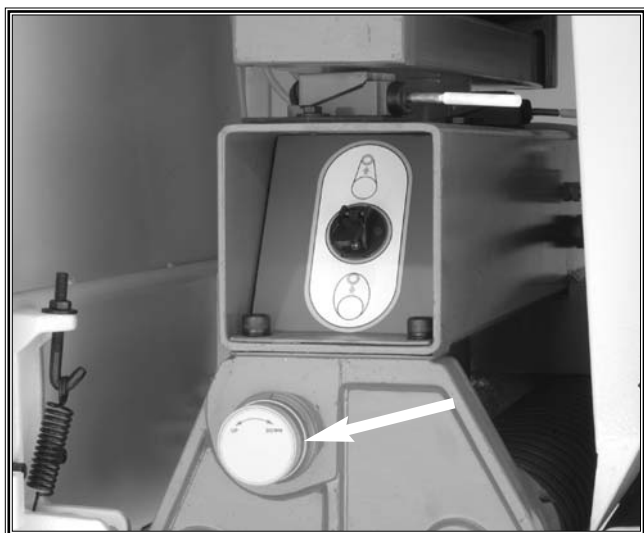

Figure 19. Platen depth knob.
4. Using the platen adjustment knob shown in **Figure 19**, move the platen so that it barely touches the straightedge, and thus, is even with both sanding belt rollers.